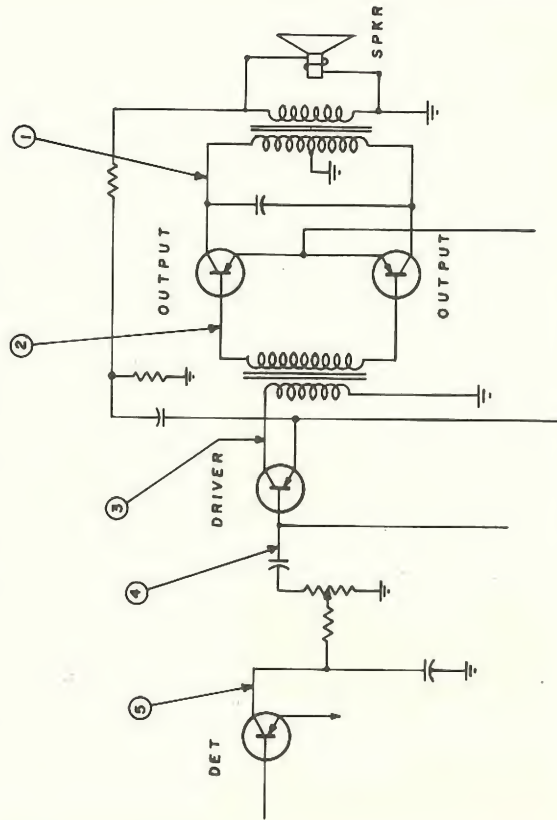

Figure 8. Checking audio stage
2. Refer to Figure 8. Connect the audio signal to the collector terminal of the output stage (test point 1). Set the "EXT MOD" switch to "INT", and adjust the "% MOD" control to produce an audible tone from the speaker.